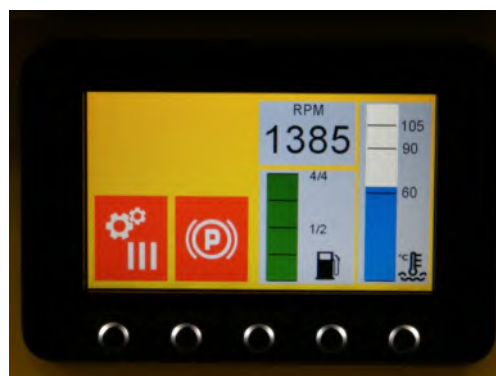

Figure 1: Main menu
2. Heat the SLOPETRAK 400 to a temperature over 60°C as in *Figure 1*;
- From the menu shown in *Figure 1*, press the DOWN key twice (see section 6.9.1) to access the forced regeneration menu *Figure 2*, then press the ENTER key for a few seconds (see *Figure 2*);